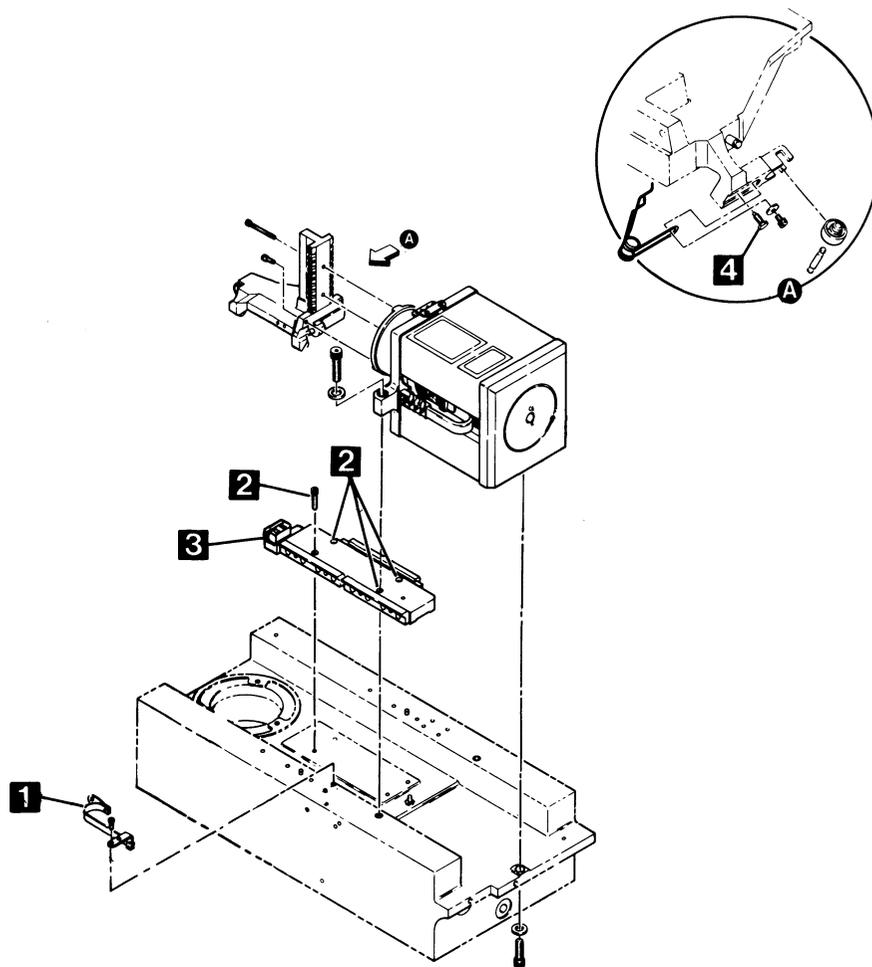

FIGURE 4-19. CARRIAGE T-BLOCK ASSEMBLY AND WAY
4. Referring to Figure 4-19, disconnect carriage ground strap **1** from deck plate.